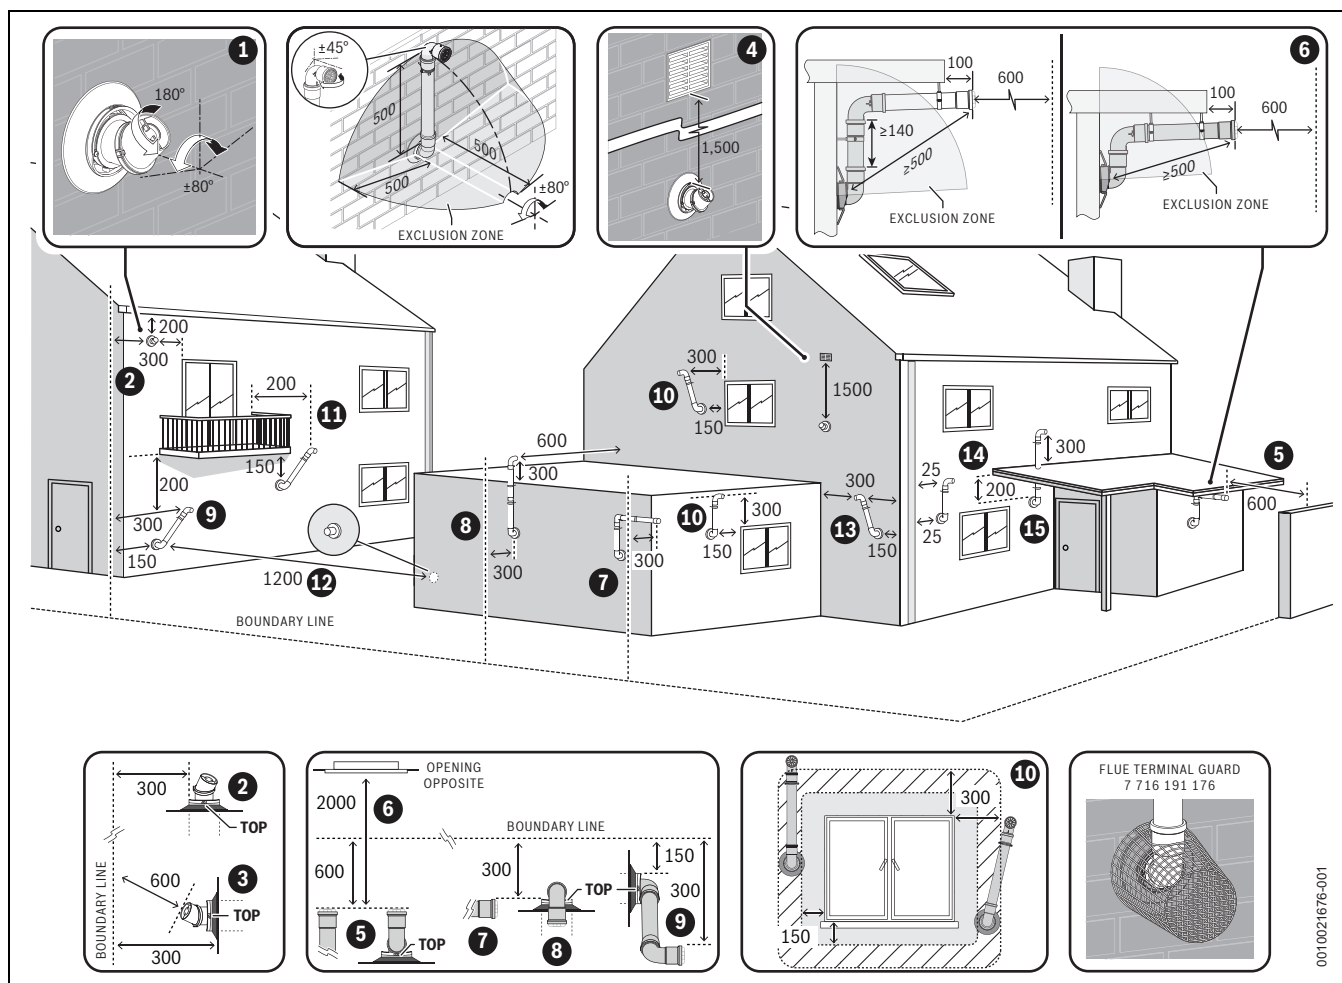

Fig. 33 Plume re-direct and plume management terminal positions
- ▶ Refer to “Horizontal flue terminal positions” for all concentric flue terminal positions unless the flue position is specified in figure 33 “Plume re-direct and plume management terminal positions”.
**Key to figure 33 - Plume re-redirect terminal positions:**
**Key to figure 33 - Plume management terminal positions:**